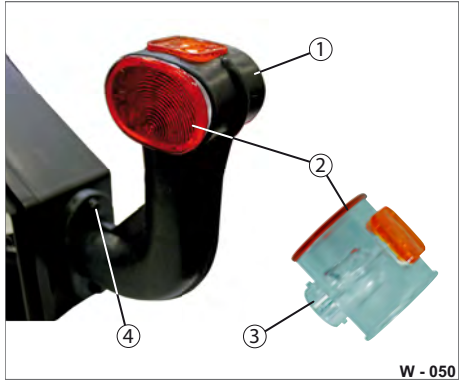

Fig. 48 Removing the rubber arm
- ▶ Spray plenty of silicon spray on the rubber arm covering (Fig. 48/1) - this makes turning up and down easier.
- ▶ Remove the rubber arm covering from the light body (Fig. 48/2) using a slotted screwdriver.
- ▶ Release the screw fittings (Fig. 48/3) and remove the light body.
- ▶ Screw on the lamp (Fig. 48/1) with the screw fitting (Fig. 48/3). Ensure that the seal is fitted correctly.